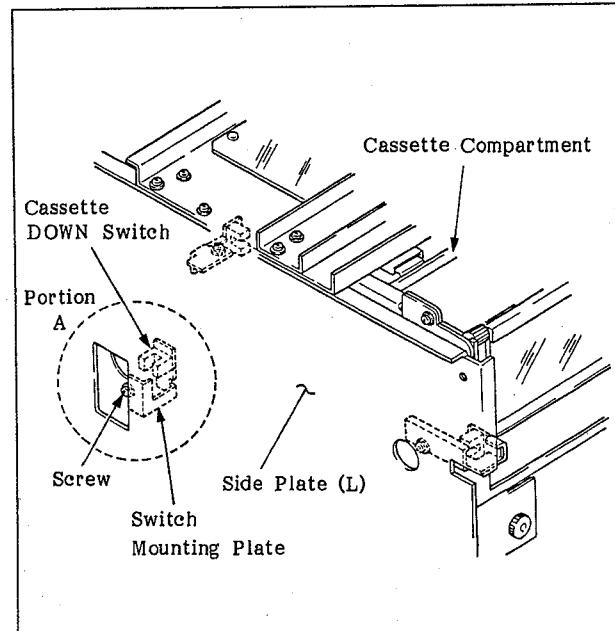
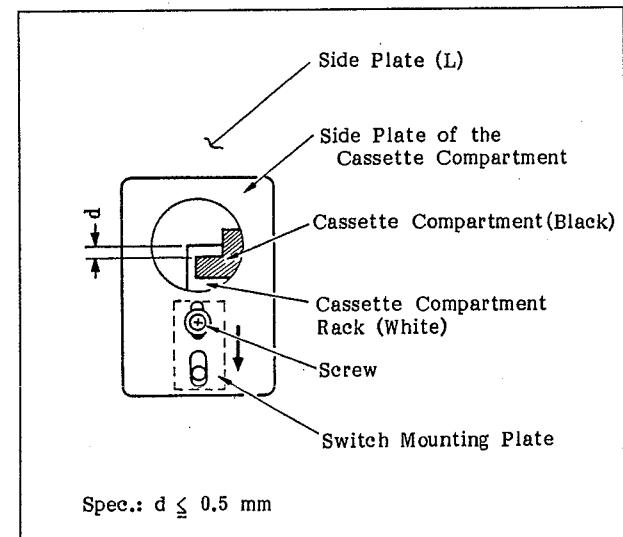

Fig. 6-18 Cassette DOWN Switch
Fig. 6-19 Adjusting the Position of the Cassette DOWN Switch
19. Press the **TEST**, **F3(CHECKER)**, **F1(CONTINUE)**, **F3 (C)**, **4**, **SET**, **F5 (E)**, **8**, **SET** keys on the control panel in that order to set the machine in the data check mode.
21. If portion A in Figure 6-18 does not meet the required specification shown in Figure 6-19, loosen the attaching screw of the down sensor mounting plate by a half or one turn and then adjust the position of the sensor mounting plate by sliding it into the direction of the arrow by about 0.5 mm.
22. Move the cassette up and insert the cassette in the cassette compartment again. Then, confirm again that portion A in Figure 6-18 meets the required specification shown in Figure 6-19. If it does not, repeat steps 21 and 22 until the required specification is met.